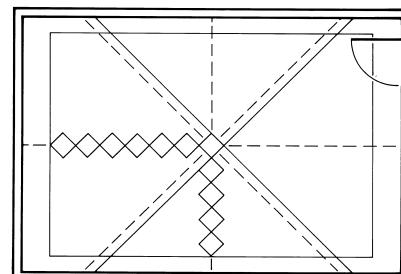

Fig. 26 - Adjusting chalk lines for a diagonal layout.
- Measure the distance between the last whole tile and the wall. If the distance in either row is less than one-fourth of the diagonal dimension of the tile (whole tile = $5\frac{1}{2}$ " and a separated tile = $2\frac{3}{4}"), adjust the starting point and snap a new chalk line (use the dimension for the tile being installed) away from the original chalk line (Fig. 26). This will provide a balanced layout with larger cut tile around the perimeter.$